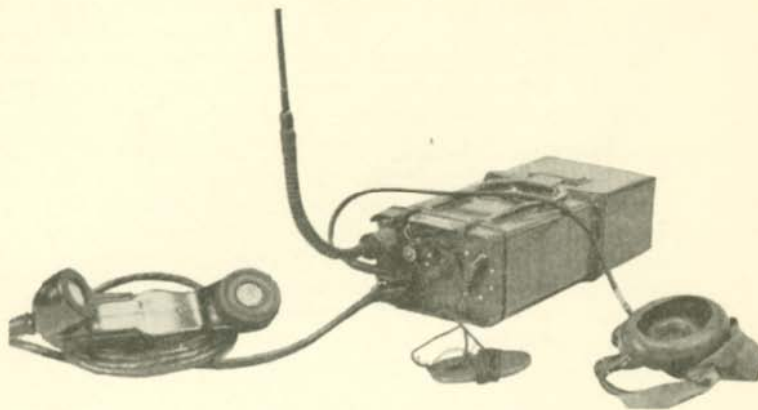

Figure 2 — Control Panel C PRC 26
- (e) **Control panel and components.** The control panel and the components which are attached to it are shown in figure 2.
- (a) **To increase the working range.** Leave the rod antenna plugged in. Plug the counterpoise into the counterpoise socket (see fig.2). Tuck the counterpoise tab into the operator's boot-top.